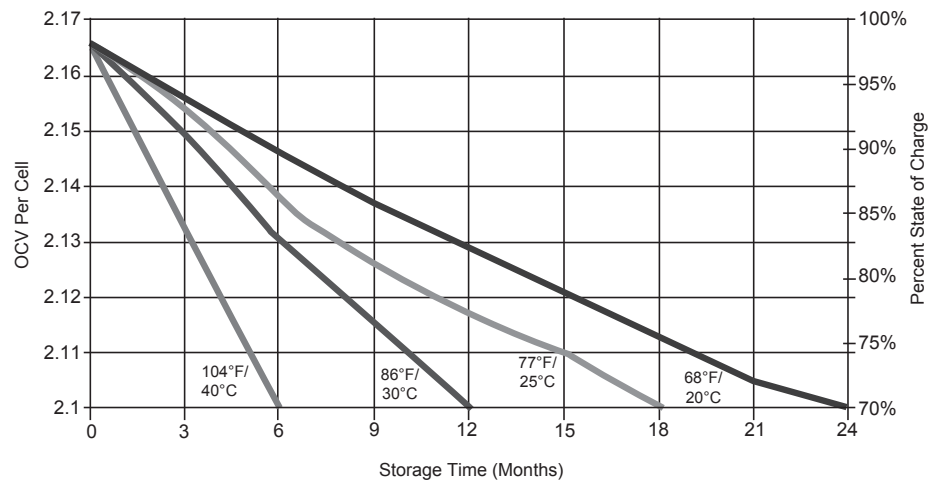

Fig. 4-3, Capacity vs. Storage Time for AlphaCell HP
- As batteries get colder, the available capacity is reduced (See Fig. 4-3). This is related to the kinetics of the electrochemical reactions and the resistivity of the electrolyte.